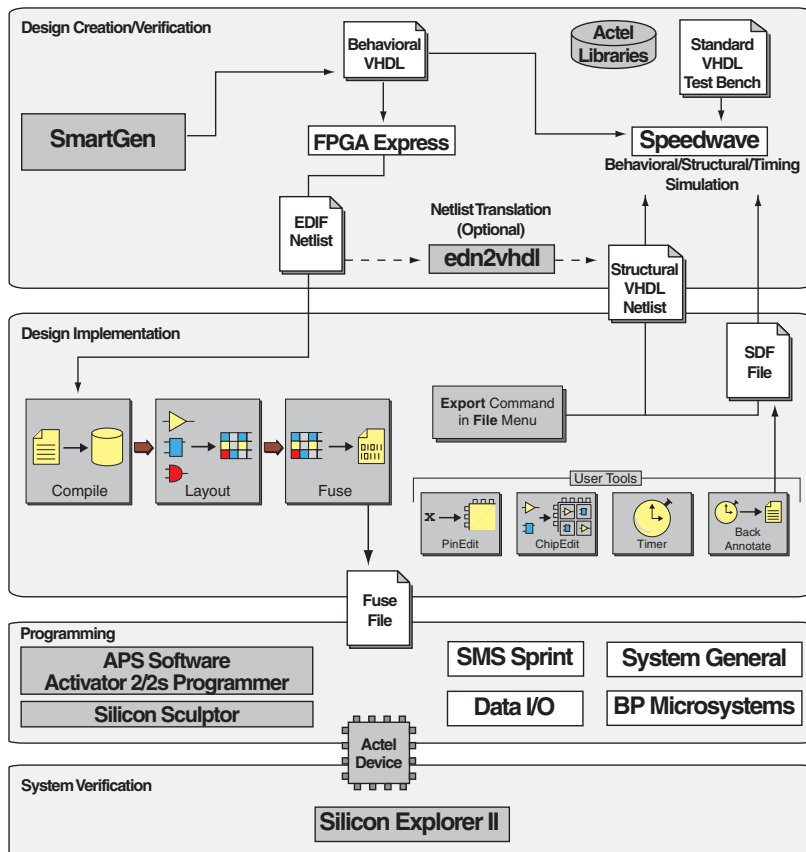

Figure 2-3. Actel-Innoveda VHDL Synthesis-Based Design Flow
Figure 2-3 shows the VHDL synthesis-based design flow for an Actel device using the eProduct Designer and Designer Series software¹.
1. The grey boxes in Figure 2-3 denote Actel-specific utilities/tools.